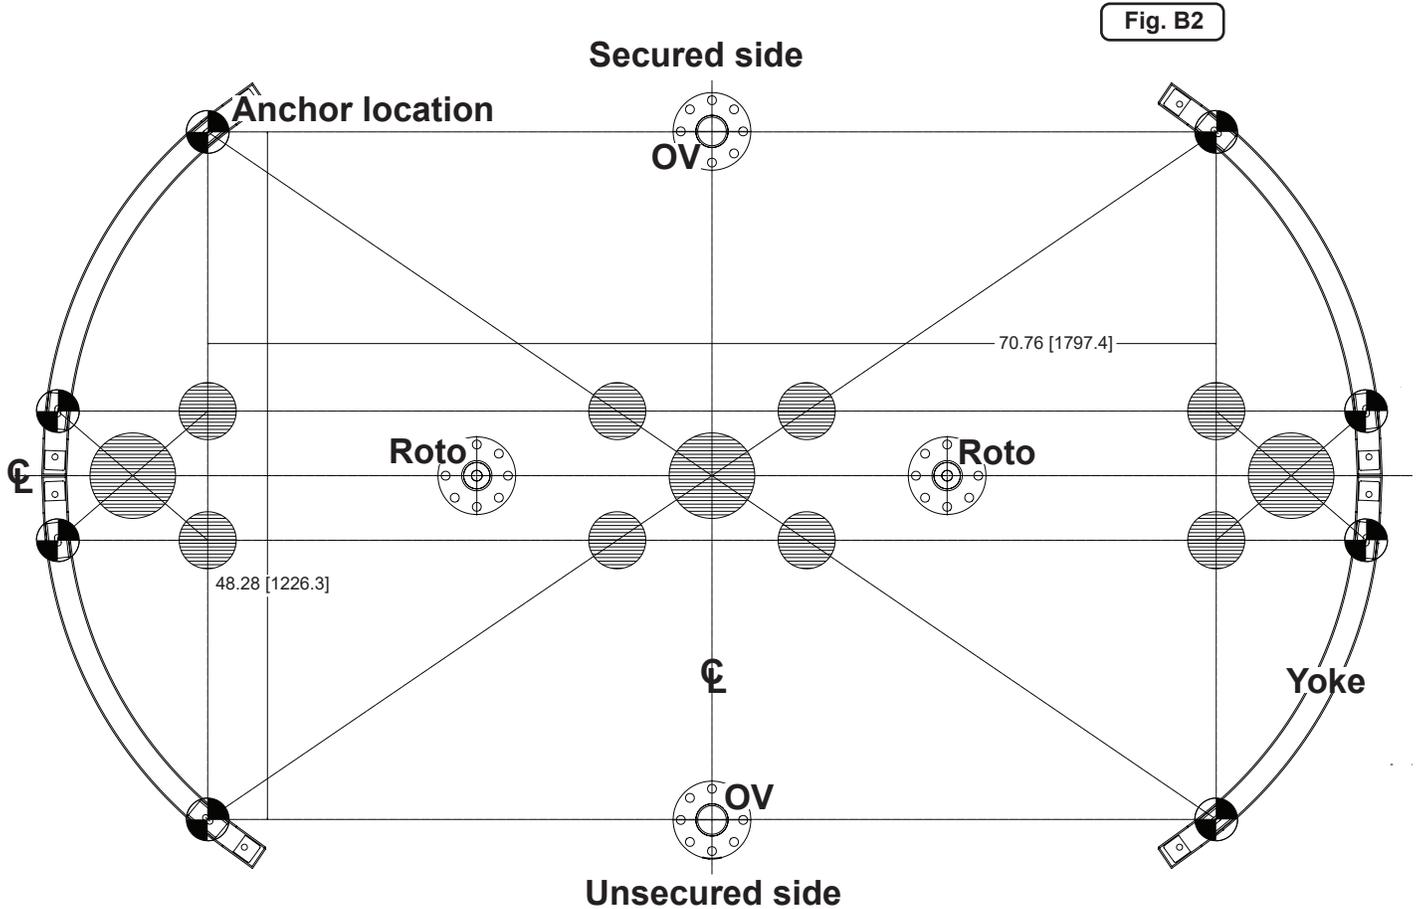

Fig. B2
2. Lay the floor template over the installation location while aligning the centerlines - ensure the template is properly positioned to fill the space available and is orientated correctly. [Figure B2]